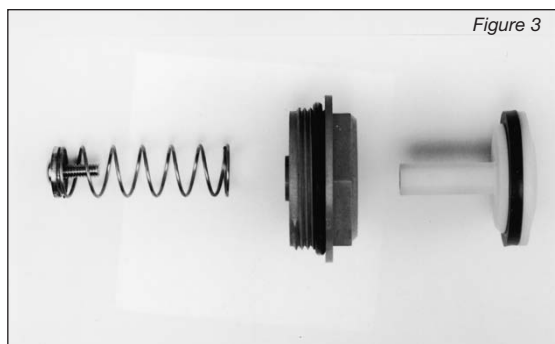

Figure 3
- e. Use flat head screwdriver to disassemble the check valve (see figure 3).